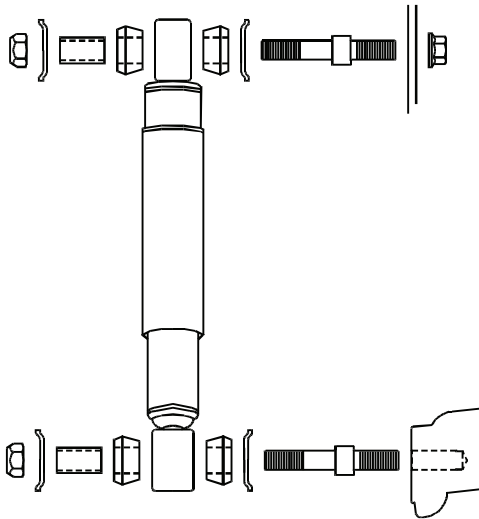

Figure 31 - Shock Absorber Mount
2. Place the inside retaining washers, shock sleeves, and the inside shock eye bushings on the upper and lower shock mount. Note the orientation of the washer and bushing. (See Figure 31).
4. Place the outside shock eye bushings and the outside retaining washers on the upper and lower shock mount. Note the orientation of the washer and bushing. (See Figure 31).